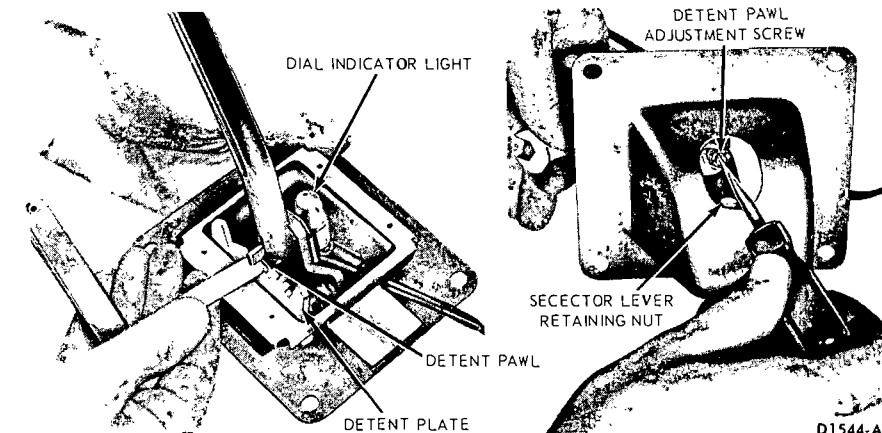

FIG. 22—Selector Lever Detent Pawl Adjustment
13. Position the selector lever as shown in Figure 22. With a feeler gauge, check the clearance between the detent pawl and plate. The clearance should be 0.005 to 0.010 inch. If necessary adjust the height of the detent pawl as shown in Figure 22.
5. Disconnect the dial indicator light (Fig. 22).
7. Remove the selector lever to housing attaching nut (Fig. 22). Remove the lever from the housing.
11. Position the selector lever as shown in Figure 22. With a feeler gauge check the clearance between the detent pawl and plate. The clearance should be 0.005 to 0.010 inch. If necessary adjust the height of the detent pawl as shown in Figure 22.